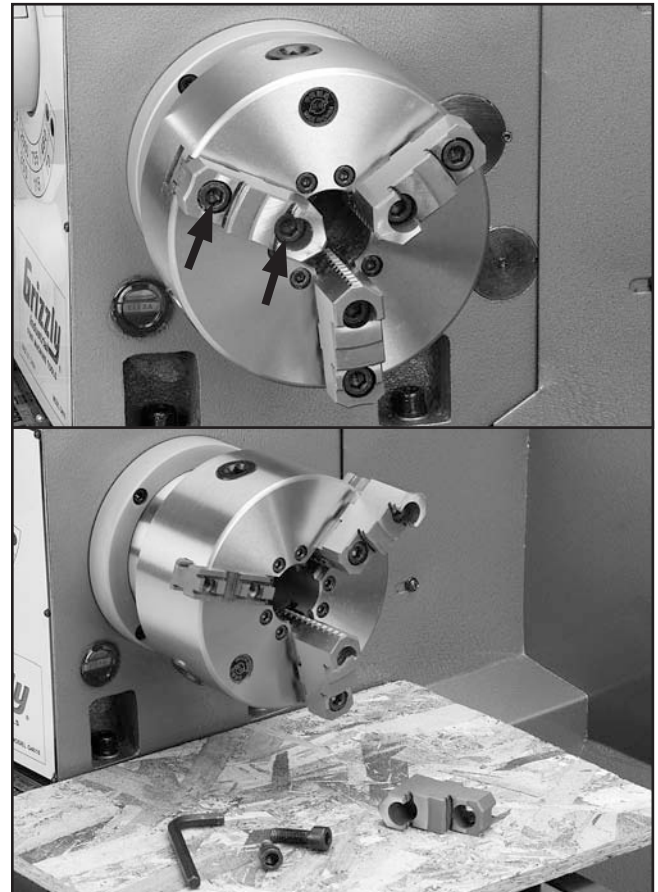

Figure 26. Reversing the chuck jaws.
2. Remove the cap screws that retain the top portion of one of the jaws (see **Figure 26**), and remove the jaw.
3. Making sure the longer cap screw remains in the thicker part of the jaw, rotate the jaw 180° and reinstall it to the lower jaw (see **Figure 26**).